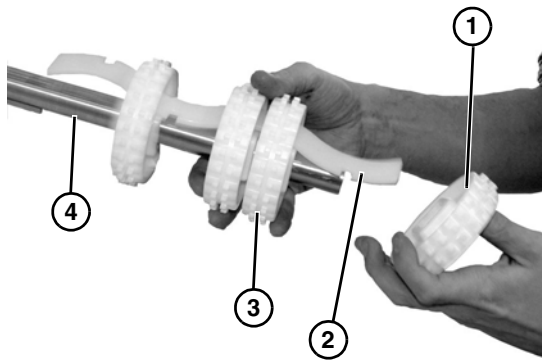

Figure 33
- Slide entire sprocket assembly slightly outward, and remove the first sprocket (Figure 33, item 1) off the drive spindle and alignment bar (Figure 33, item 2).
- Remove remaining sprockets (Figure 33, item 3) off the alignment bar as you slide entire assembly off the drive spindle (Figure 33, item 4).